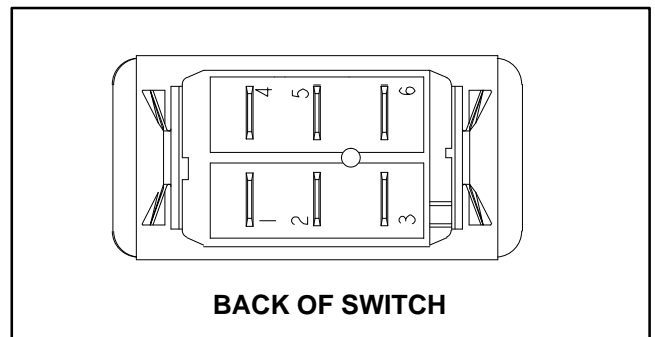

Figure 60
3. With the use of a multimeter (ohms setting), the boom lift switch functions may be tested to determine whether continuity exists between the various terminals for each switch position. The switch terminals are marked as shown in (Fig. 60) and the circuitry of the boom lift switch is shown in the chart in (Fig. 61). Verify continuity between switch terminals.